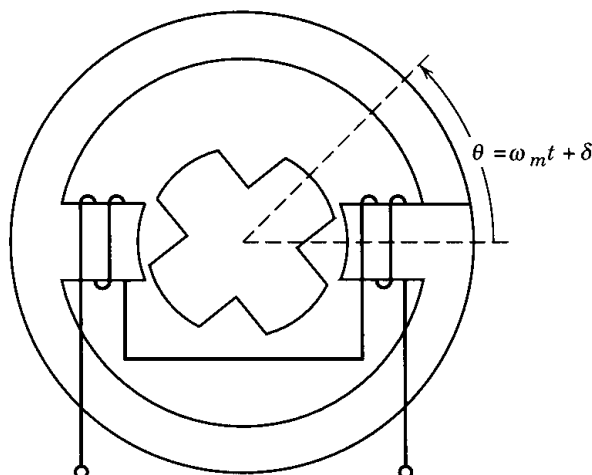

FIGURE P3.10
- 3.10 A reluctance motor with four rotor poles is shown in Fig. P3.10. The reluctance (\mathcal{R}) of the magnetic system can be assumed to be a sinusoidally varying function of θ and is given by